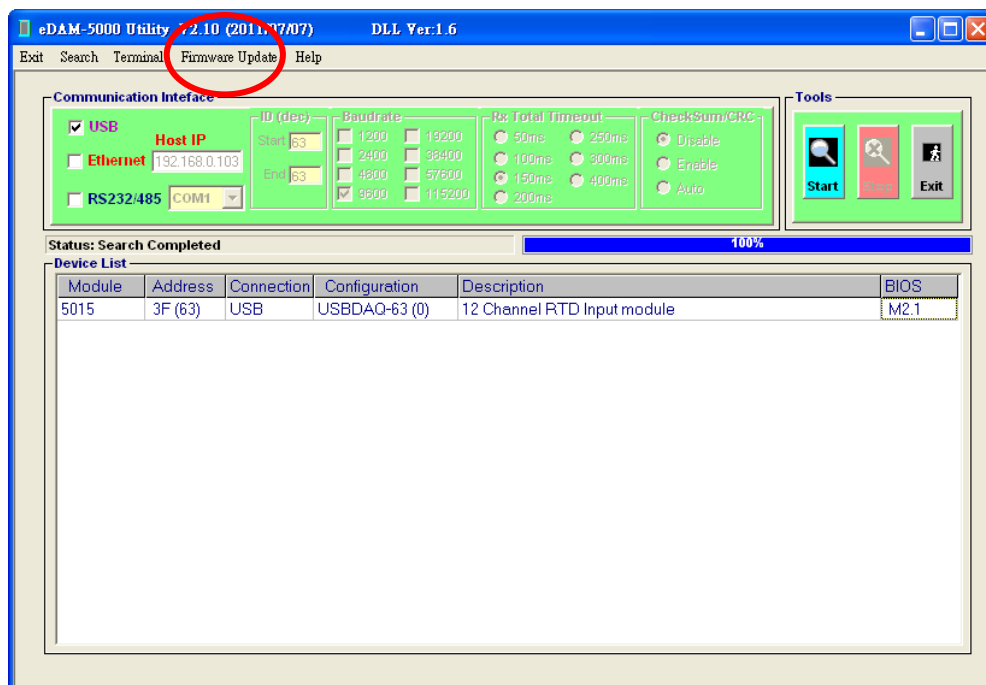

Figure -4
- Click "Firmware Update" in the menu bar (see Figure -4)